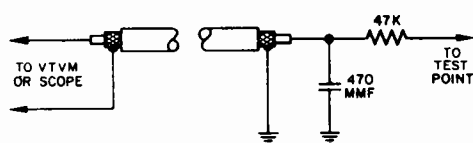

Figure 8 - Decoupling Network.
**Oscilloscope and VTVM** — Use a low capacitance direct probe terminated with the decoupling network shown in Figure 8. Keep the oscilloscope calibrated for 2 volts peak to peak (P-P). Use a VTVM range suitable for measuring -1.5 volts.
For all of the following steps, connect an oscilloscope or a VTVM through the decoupling network of Figure 8, to TP (B). Fine tuning should be set to center of range. Set AGC level control fully CCW.